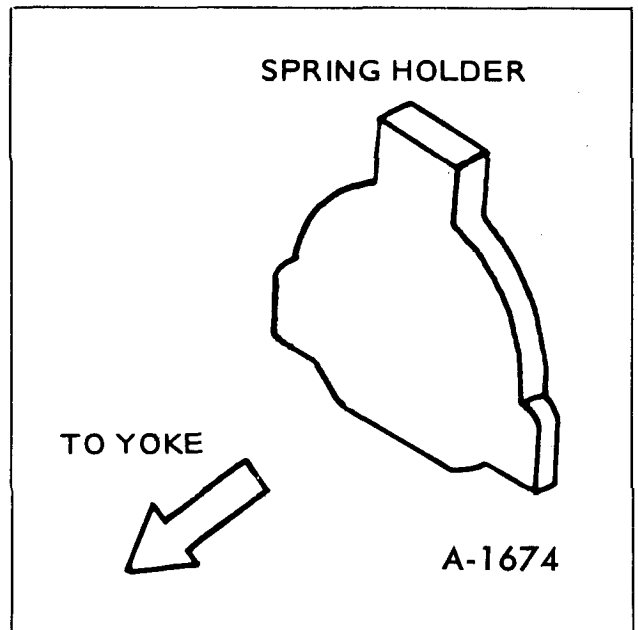

Figure 70—Spring Holder
5. Place the lever spring and the spring holder into the front bracket in the direction shown in Figure 70.